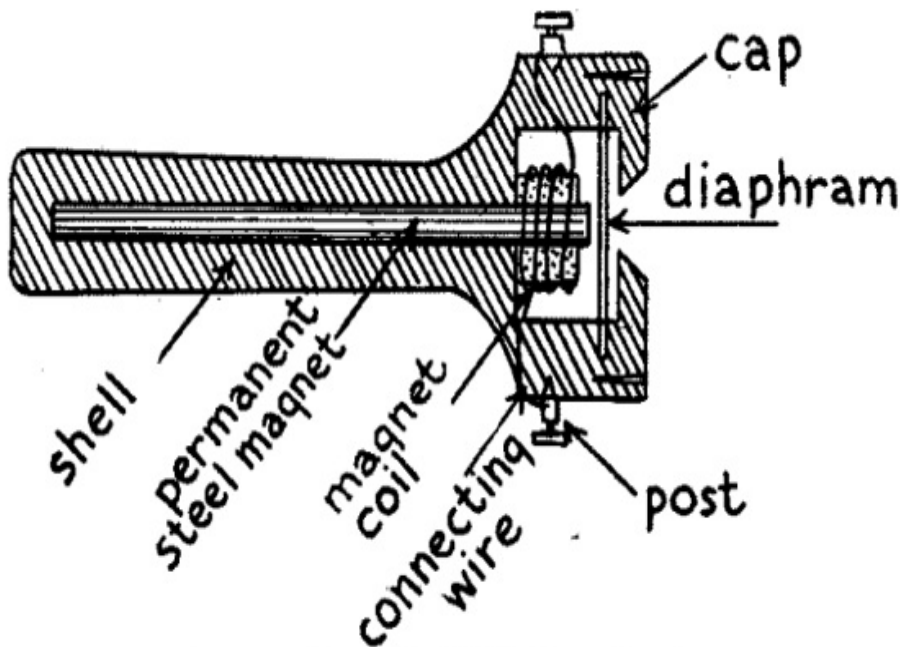

FIG. 62.—Cross-section of Bell Telephone Receiver.
How a Bell Telephone Receiver Is Made.--An ordinary telephone receiver consists of three chief parts and these are: (1) a hard-rubber, or composition, shell and cap, (2) a permanent steel bar magnet on one end of which is wound a coil of fine insulated copper wire, and (3) a soft iron disk, or *diaphragm*, all of which are shown in the cross-section in *Fig. 62*. The bar magnet is securely fixed inside of the handle so that the outside end comes to within about $\frac{1}{32}$ of an inch of the diaphragm when this is laid on top of the shell
How the Headphones Work.--As you will see from the cross-sections in *Figs. 62* and *63* there is no connection, electrical or mechanical, between the diaphragm and the other parts of the receiver. Now when either feeble oscillations, which have been rectified by a detector, or small currents from a *B* battery, flow through the magnet coils the permanent steel magnet is energized to a greater extent than when no current is flowing through it. This added magnetic energy makes the magnet attract the diaphragm more than it would do by its own force. If, on the other hand, the current is cut off the pull of the magnet is lessened and as its attraction for the diaphragm is decreased the latter springs back to its original position. When varying currents flow through the coils the diaphragm vibrates accordingly and sends out sound waves.